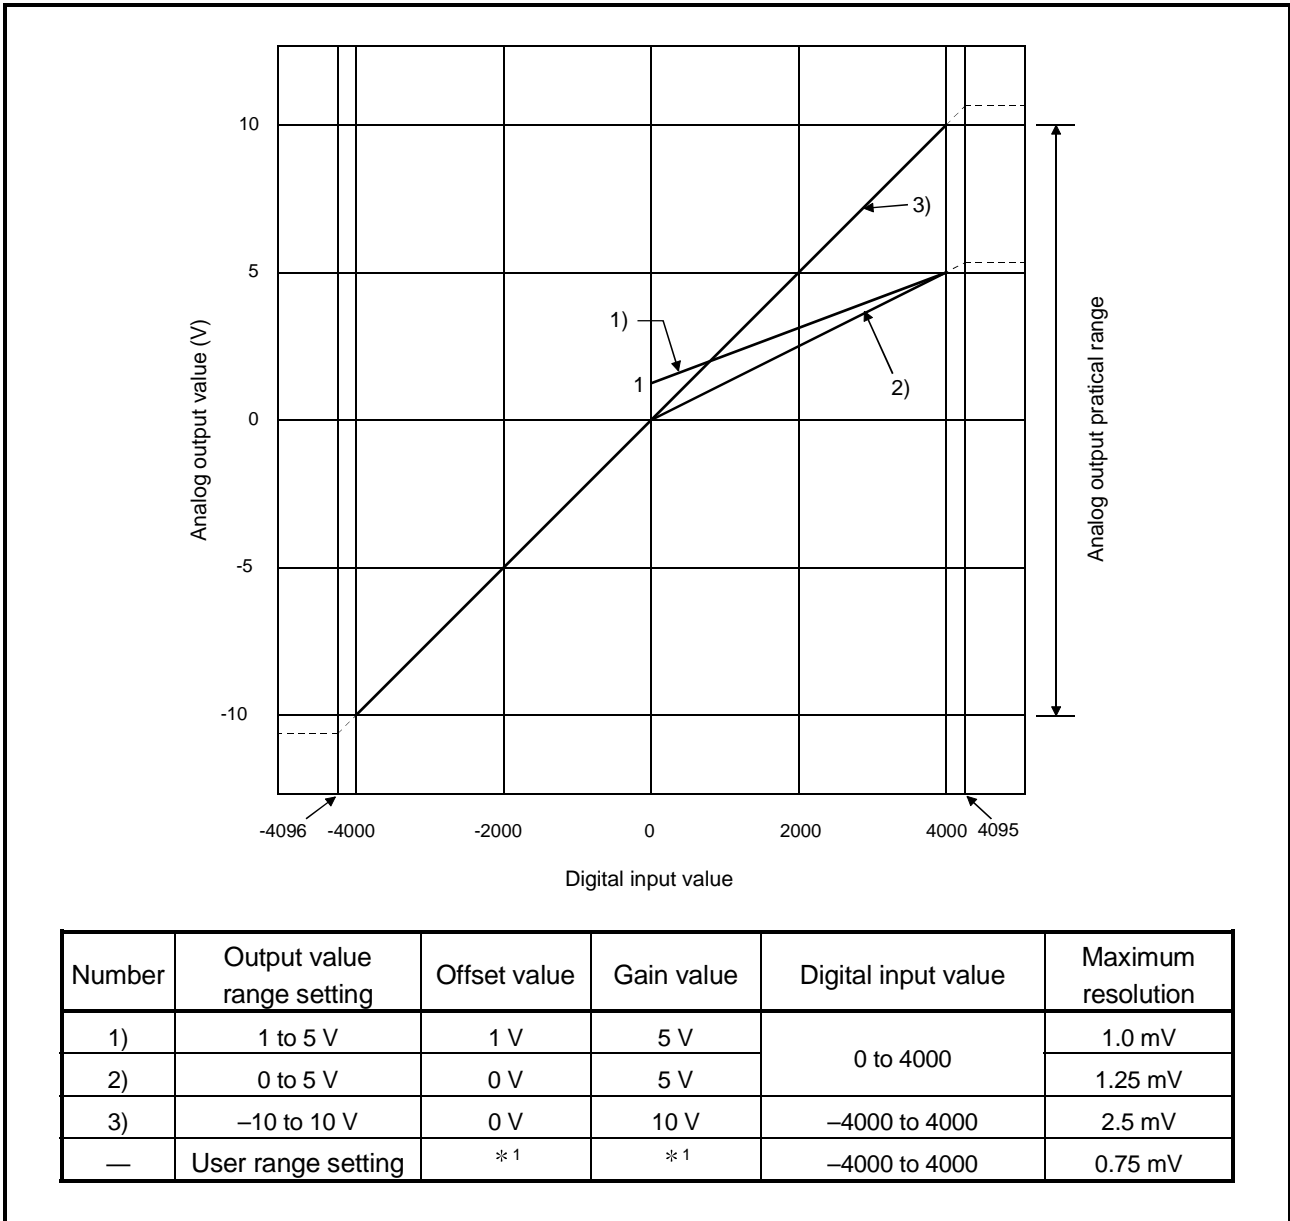

Figure 3.1 Voltage output characteristic in normal resolution mode
Figure 3.1 shows a graph of the voltage output characteristic in normal resolution mode.
<p>(1) Set within the digital input range and analog output range for each output range. If these ranges are exceeded, the maximum resolution and accuracy may not fall within the performance specifications. (Avoid using the dotted line area shown in Figures 3.1 and 3.2.)</p>